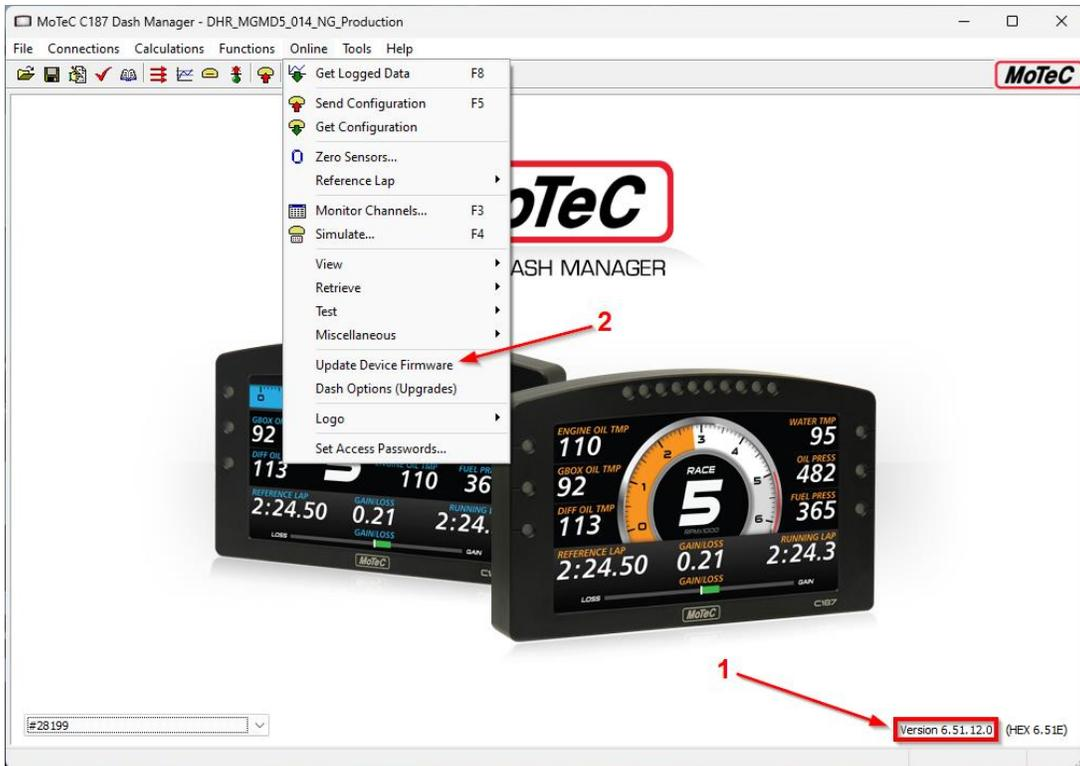

Figure 1: Motec Dash Manager – updating device firmware.
3. Once you have confirmed you're using the latest version, select "Online -> Update Device Firmware" as shown in Figure 1.